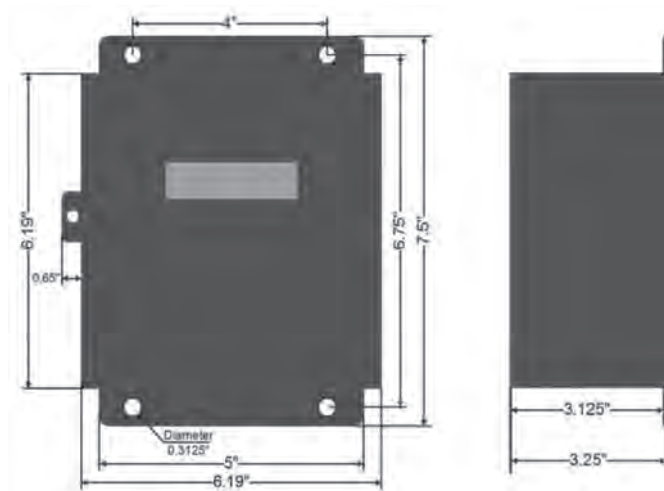

Figure 1 - Steel enclosure dimensions
| Figure 1: Steel Enclosure Dimensions .....          | 5  |
1. Industrial grade JIC steel enclosures for indoor installations shown in Figure 1